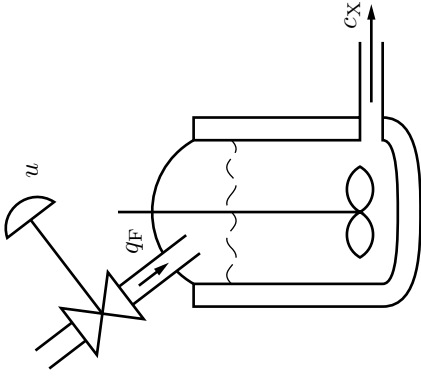

Figure 4.12a
4.12 Consider the biochemical reactor in Figure 4.12a. It is desirable to control the concentration of biochemical material  $cx$  (output  $y$ ) by manipulating the dilute flow  $q_F$  (input  $u$ ). A model of this system can be described as